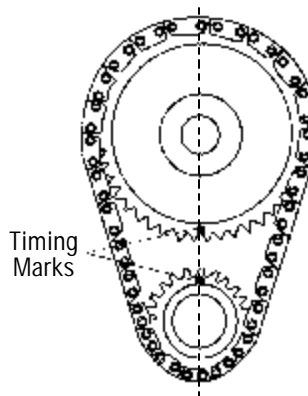

Figure 1- Timing Chain Sprocket Alignment
14. Rotate engine until timing marks are aligned (*See Figure 1*).
Install camshaft with timing marks lined up as recommended by factory specifications (*See Figure 1*). Edelbrock Timing Sets feature three keyways for specific timing selection. Use the "0" or straight-up position for most applications. When using Performer-Plus Timing Chain and Gear Set #7801 with Edelbrock cam and lifter kits, straight up timing alignment is achieved. If any other timing gear set is used, it is necessary to check cam position for correct timing alignment. This requires indexing the camshaft with a degree wheel to verify timing alignment. O.E.M. or non-Edelbrock timing gear sets are not recommended for use with Edelbrock camshafts.
After the cam is installed and timed correctly (*See Figure 1*), it will be necessary to check each pushrod for correct lifter pre-load. Before installation, be sure to coat friction surfaces of pushrods, rocker arms and pivots with a suitable lubricant such as motor oil or assembly lube.